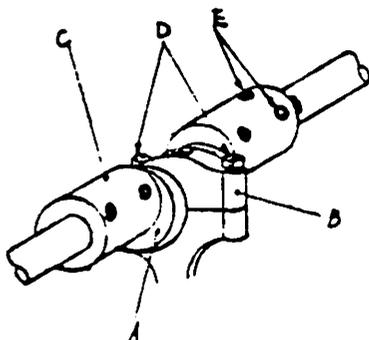

Fig 5
Please refer to the Fig. 5 and 6.
2. Provisionally tighten the crank joint collour screw E in Fig. 5.
3. Rotating the pulley, if the correct synchronzation is not decided, please operate the looper driving shaft B in Fig. 5. In turning it to counterclockwise, the looper working against the needle becomes slower, and turning to colckwise, it becomes faster.
5. After operating the above mentioned turns, and the correct synchroniza- tion is decided, please tighten the crank joint collour screw E in Fig. 5 and driving lever screw M in Fig. 6.